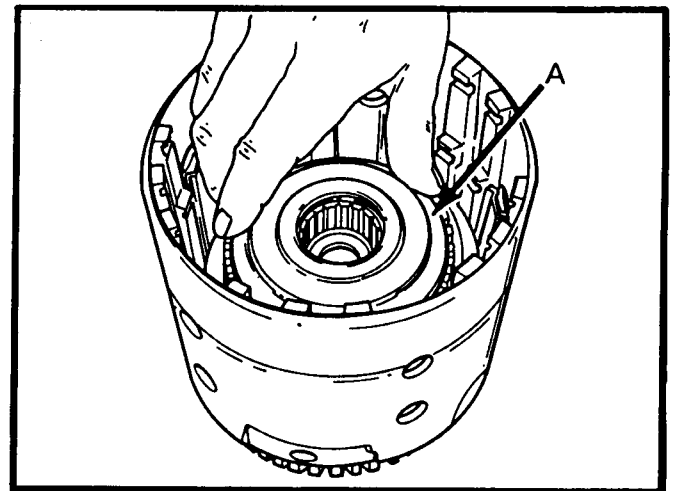

Figure 126
8. Install the pre-assembled forward sprag assembly into the input housing, shown in Figure 126, by turning, and indexing the overrun clutch hub into overrun clutch friction plates.
9. It should be down against the thrust bearing when installed properly, as shown in Figure 126.